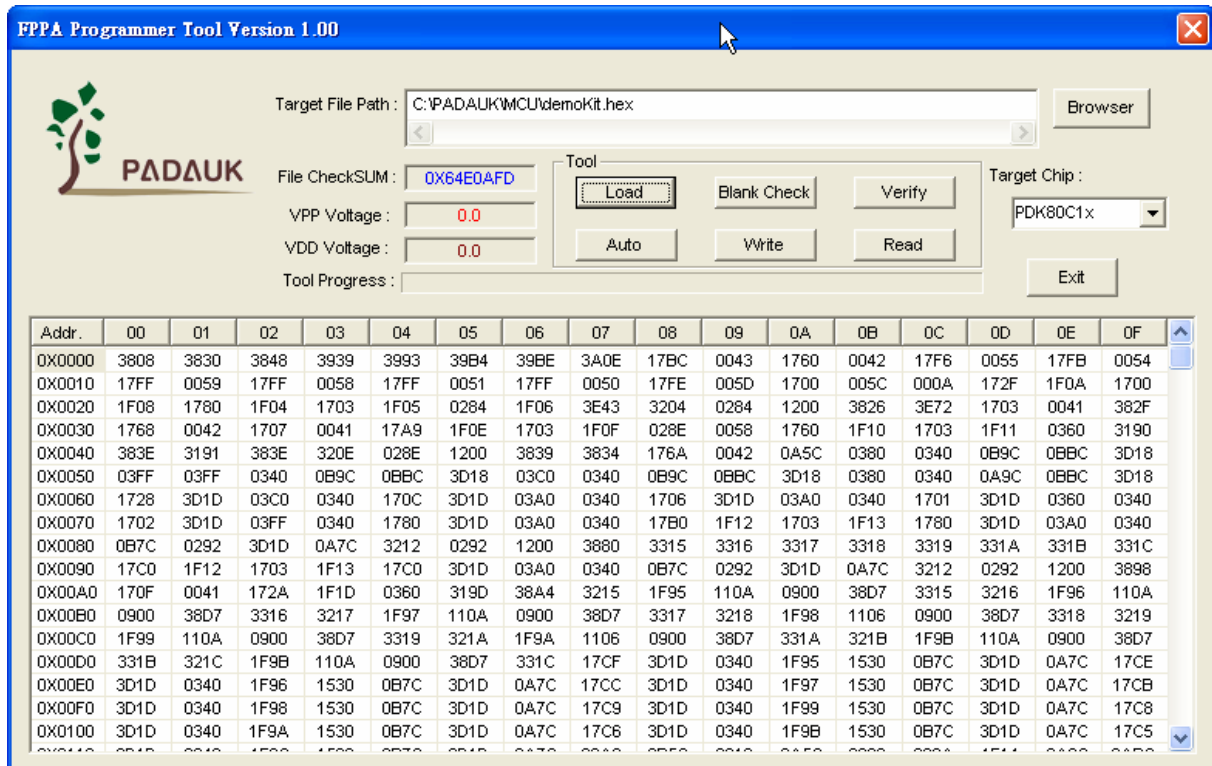

Fig.4-7 : Window of Programmer Tools
Step 2 : Click  to open the window of "FPPA Programmer Tool" or select command "Programmer -> Programmer Tools" , Fig.4-7 shows the window of Programmer Tools .